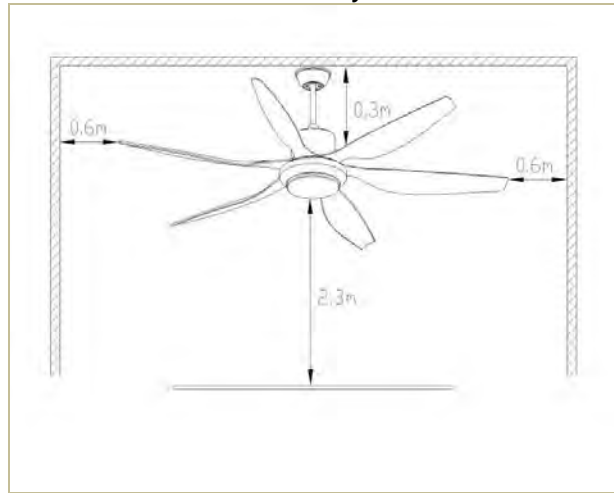

Fig 1
1. Minimum space for installation (Fig 1)